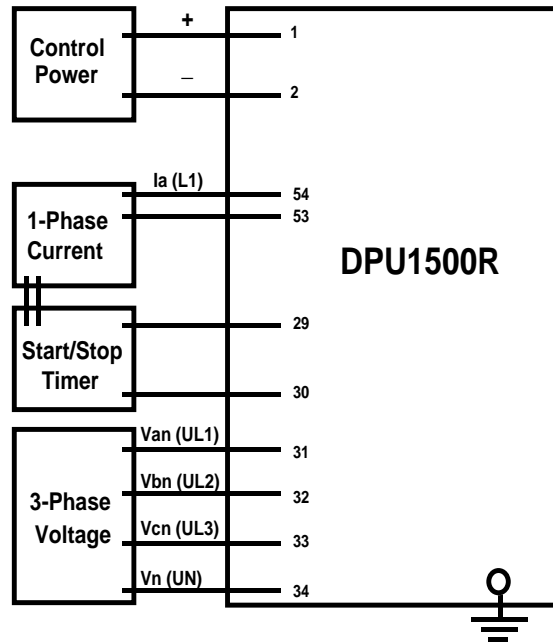

Figure 11-5. Test Circuit for Timing and Recloser Lockout
1. Connect the DPU1500R as shown in Figure 11-5.
- a. Connect the DPU1500R as shown in Figure 11-5.